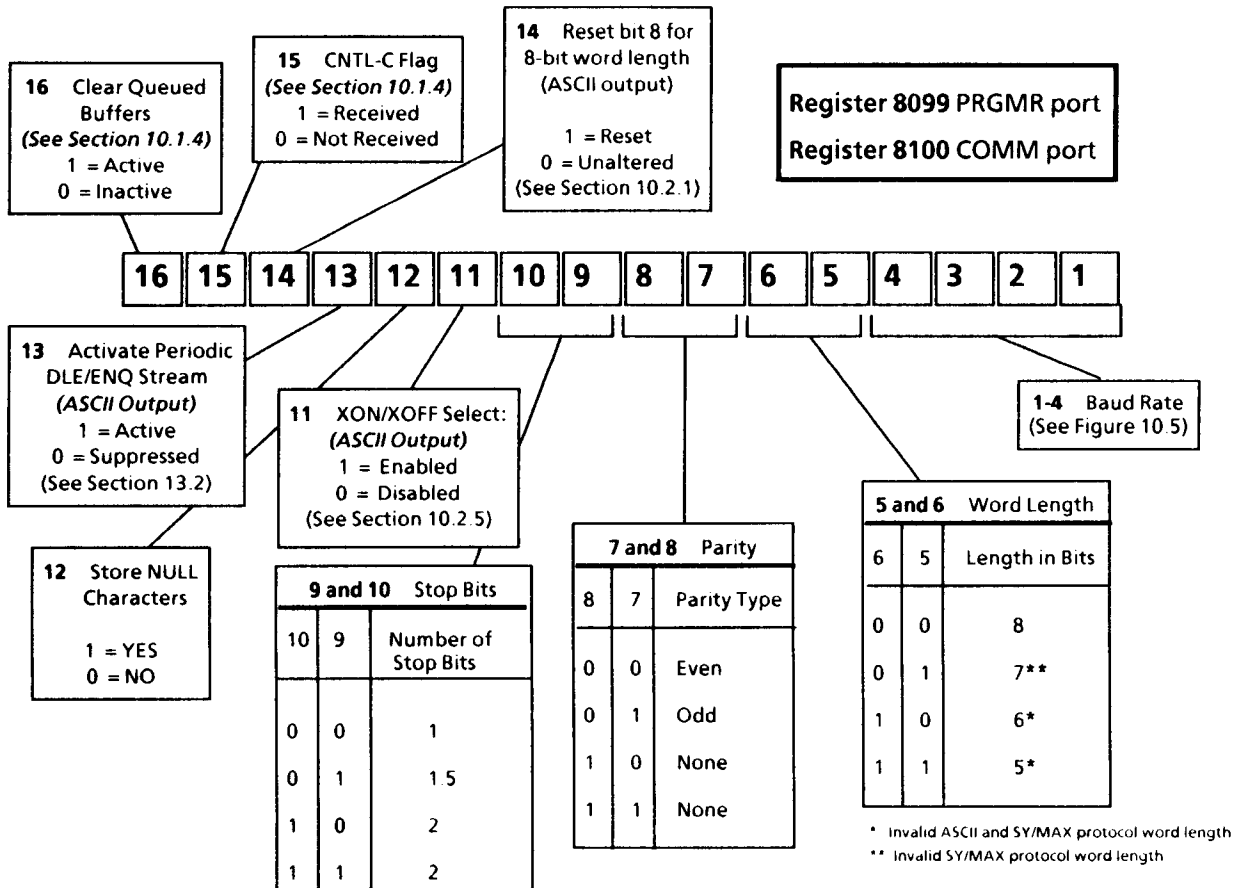

Figure 10.3 PGRMR and COMM Port Configuration Registers
Y is the CHANNEL that receives the input, being either 1 (PRGMR port) or 2 (COMM port). The serial word structure for channel 1 is defined in register 8099. The structure for channel 2 is in register 8100. See Figure 10.3.
When configuring each of the PRGMR and COMM ports for ASCII input, registers 8099 (for PRGMR) and 8100 (for COMM) are used. Figure 10.3 illustrates what each of the bits in these two registers is used for and how to configure the port for the desired word structure.
- Null (00) characters may either be disregarded or stored as valid characters. See bit 12 in Figure 10.3.
If the receiving device does not automatically mask off bit 8 (typically indicated when half the characters are received correctly, the other half garbled), set bit 14 of register 8100 for port 2 (register 8099 for port 1) to 1 to cause the processor to perform the mask. Another alternative to match output default settings is to set up the receiving device for a 7-bit word with odd parity and 2 stop bits. Other settings may be accommodated by adjusting registers 8099 or 8100; refer to Figure 10.3.